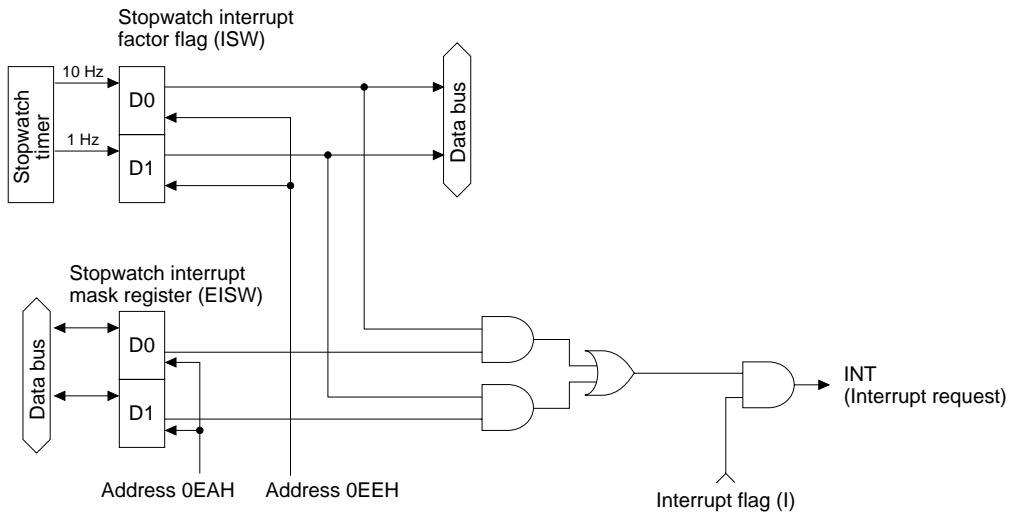

Fig. 3.9.3
The flag is reset, when it is loaded by software. (See Figure 3.9.3.)
- EISW1 This register enables or masks the 1 Hz stopwatch interrupt. The CPU is interrupted if it is in the EI state when the interrupt mask register (EISW1) is set to "1", and also the interrupt condition flag (ISW1) is "1". (See Figure 3.9.3.)
- EISW0 This register enables or masks the 10 Hz stopwatch interrupt. The CPU is interrupted if it is in the EI state when the interrupt mask register (EISW0) is set to "1", and the interrupt condition flag (ISW0) is "1". (See Figure 3.9.3.)